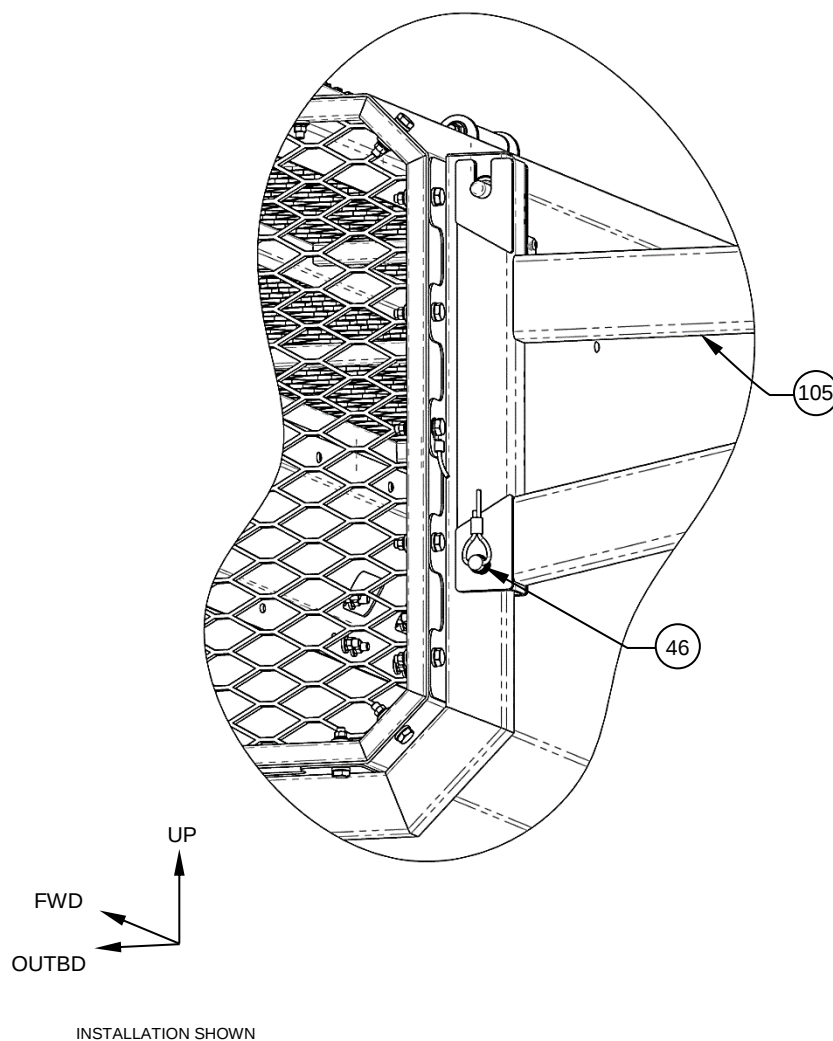

Figure 1
2. Remove 2X Clamping Toggle-Lock Clevis Pin, (Item 46), from their locations in the FWD and AFT Attachment Arm, Assys (Items 105 & 106). Reference Figure 1 & 2.